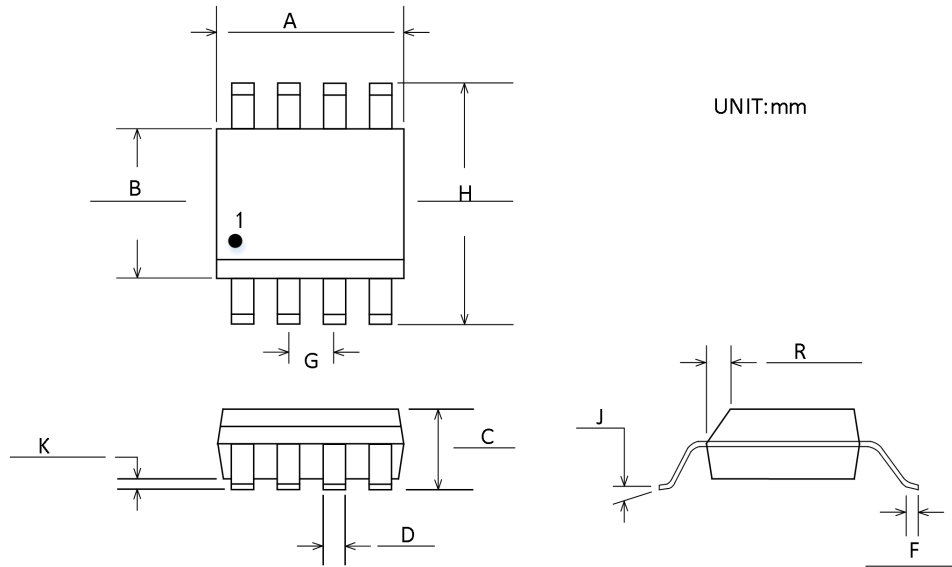

Figure 6 . 8-Lead Outline Package [SOP-8]
The time and calendar information is obtained by reading the appropriate register bytes. See Figure 6 for the RTC registers. The time and calendar are set or initialized by writing the appropriate register bytes. The contents of the time and calendar registers are in the BCD format. Bit 7 of Register 0 is the clock halt (CH) bit. When this bit is set to 1, the oscillator is disabled. When cleared to 0, the oscillator is enabled. The clock can be halted whenever the timekeeping functions are not required, which minimizes VBAT current (IBATDAT) when VCC is not applied.